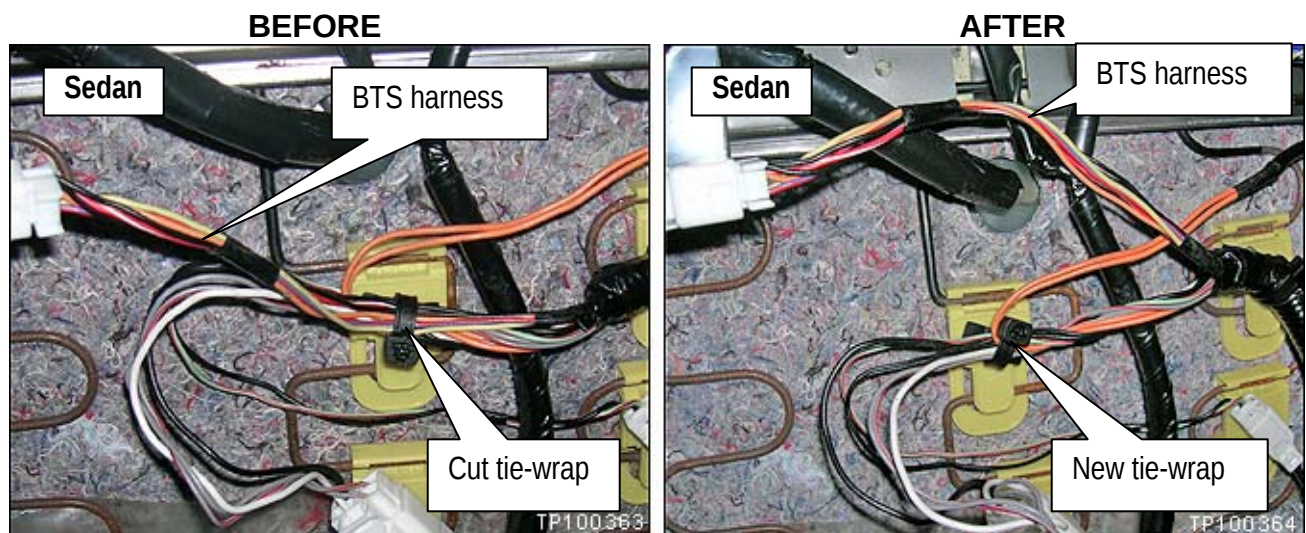

Figure 3
**NOTE:** Refer to BEFORE and AFTER in Figure 3.